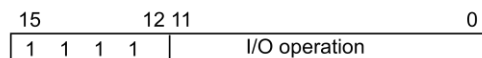

Figure 2.6: Basic computer instruction format
- The basic computer has three instruction code formats, as shown in figure 2.6.